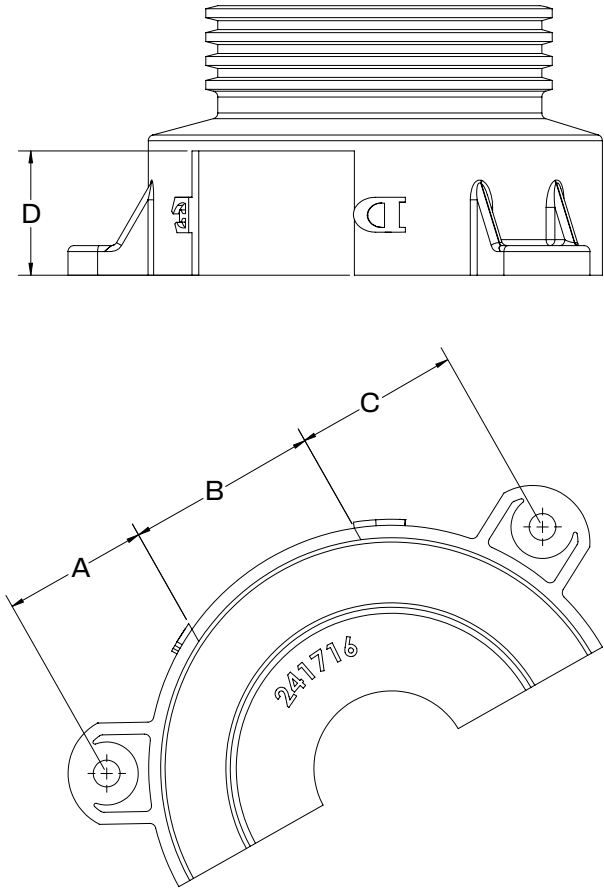

Figure 4 – Modification Layout
② Note: For the TXT-E sizes shown in Table 3 below, when a split bushing cover is used with a backstop, the cover will require slight modification for clearance as shown. Use Figure 4 along with Table 3 for modification.